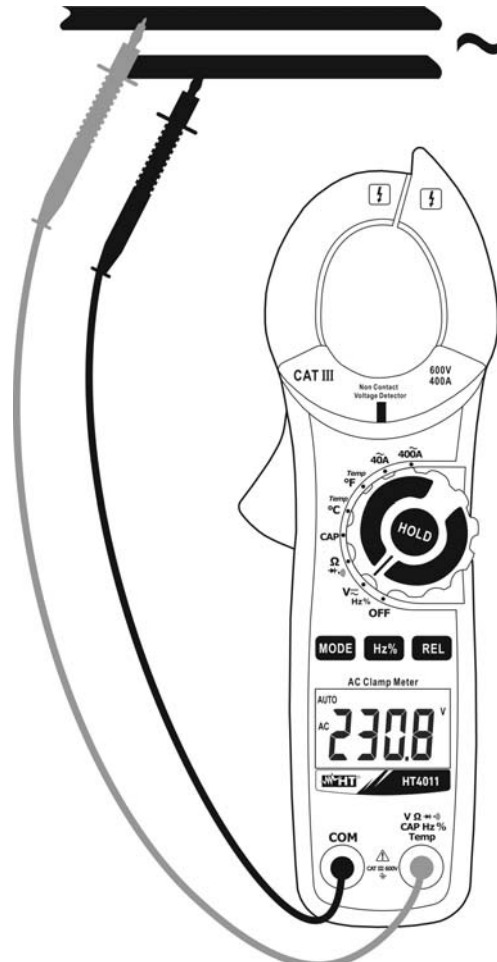

Fig. 3: Use of the clamp for AC voltage measurement
3. Insert the red cable into input terminal **VΩHz%Temp** and the black cable into input terminal **COM** (Fig. 3).